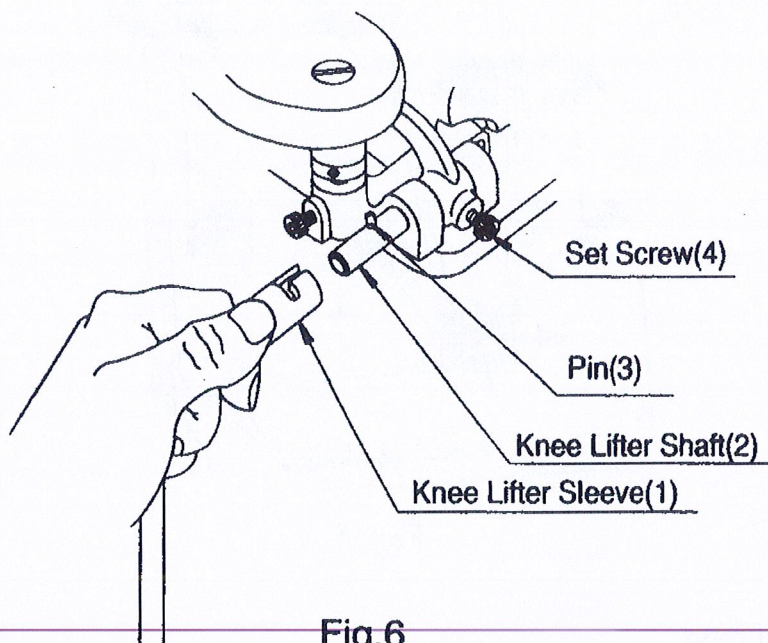

Fig.6
D.Assembly of Knee Lifter (Fig.6)